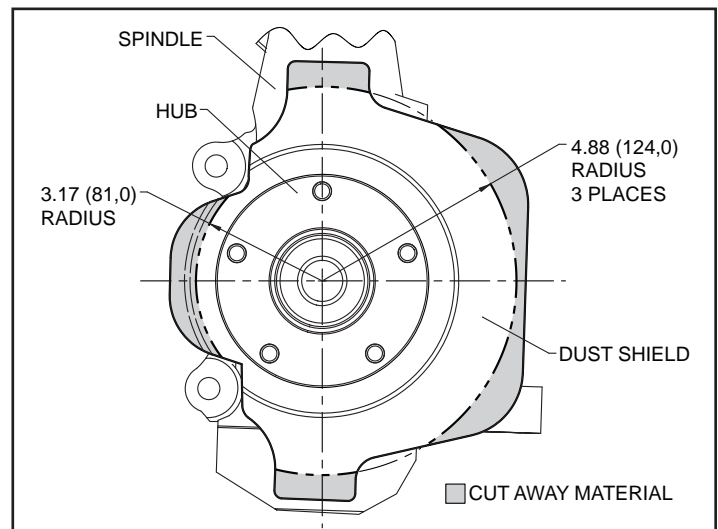

Figure 3. Dust Shield Modification
- The front dust shield needs to be modified (cut), as shown by the dotted lines/shaded area in Figure 3, to clear the new Wilwood rotor. **NOTE:** It is recommended that the dust shield be removed before modification, and the modification be performed by a qualified machine shop.